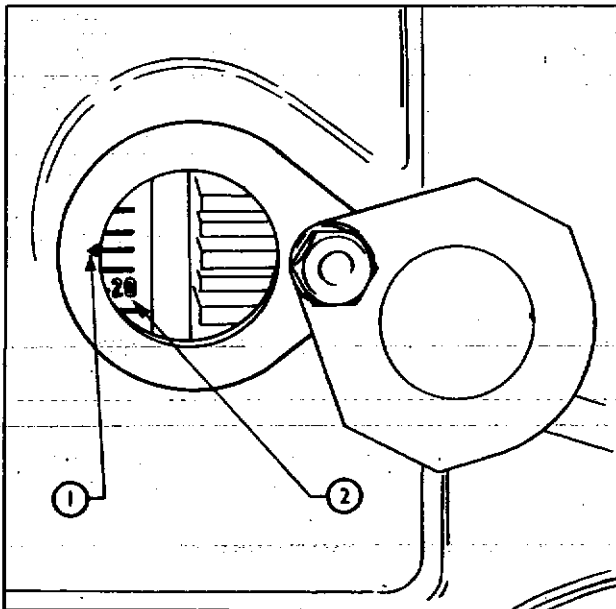

Fig. 16
1. Turn the engine until No. 1 piston is on the compression stroke, and the notch in the crankshaft pulley is in line with the specified timing mark on the timing plate (see Fig. 16). A timing mark on the rear face of the camshaft gear will be visible in the injection pump aperture when the engine is on the correct stroke.